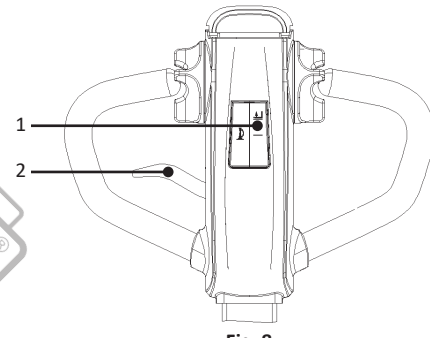

Fig. 8
**Lifting and lowering the forks (Fig. 8)**